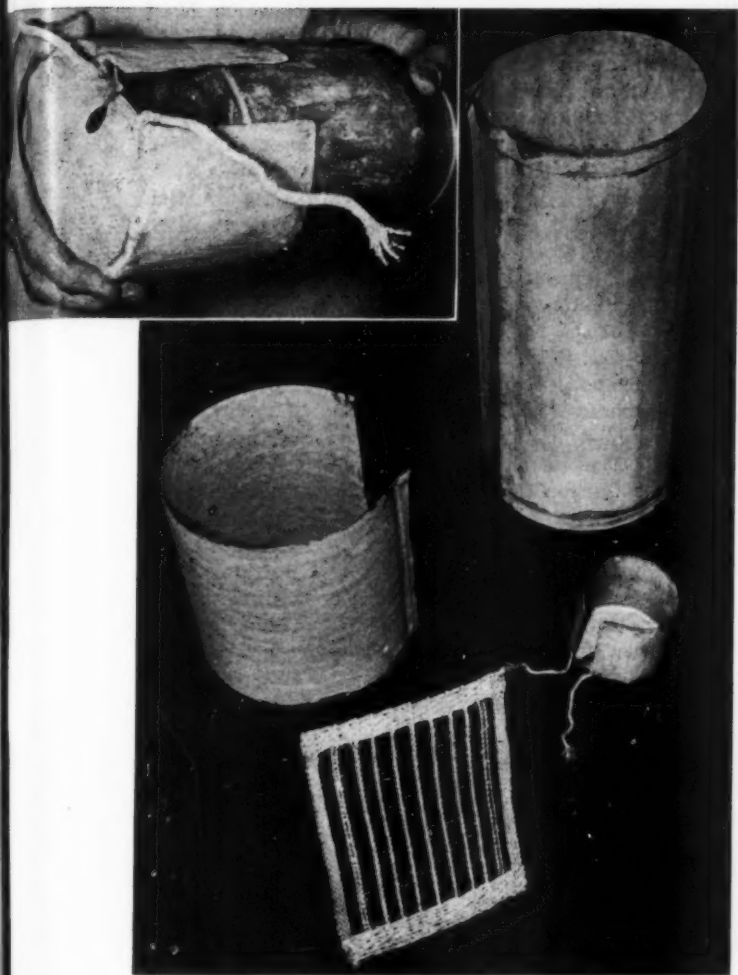

Fig. 28—Above—Woven and laminated heating units for low watt density applications can be readily molded to fit the contours of curved surfaces
**Recent Developments:** Several comparatively new innovations in resistance units offer additional possibilities for specific applications. Most are designed for low watt densities and shape flexibility. In *Fig. 28*, two types are shown, a woven unit constructed of wire and asbestos strands and a laminated type in which resistance wires are sandwiched between two sheets of asbestos paper. Inexpensive and complete with insulation, these units may be readily molded to fit the contours of curved surfaces. Watt densities range from 5 to 10 watts per square inch at ratings of from 6 to 660 volts.
Lott Mfg. Co. (Fig. 28) .... Jamestown, N. Y.